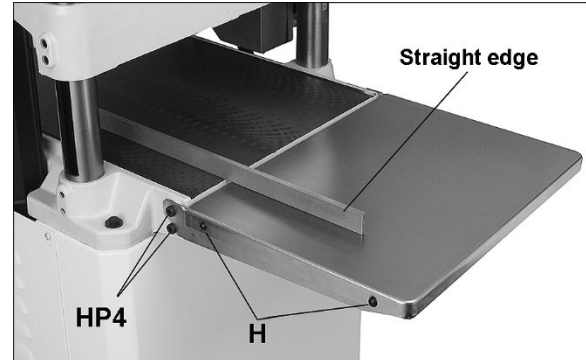

Figure 5-4: extension tables (JWP-15B only)
Place the straight edge across extension table and main table, as shown in Figure 5-4. Move the straight edge to different places along the table width during the alignment process.
3. Place a straight edge (straight steel bar or carefully jointed board) across extension table and main table, as shown in Figure 5-4.